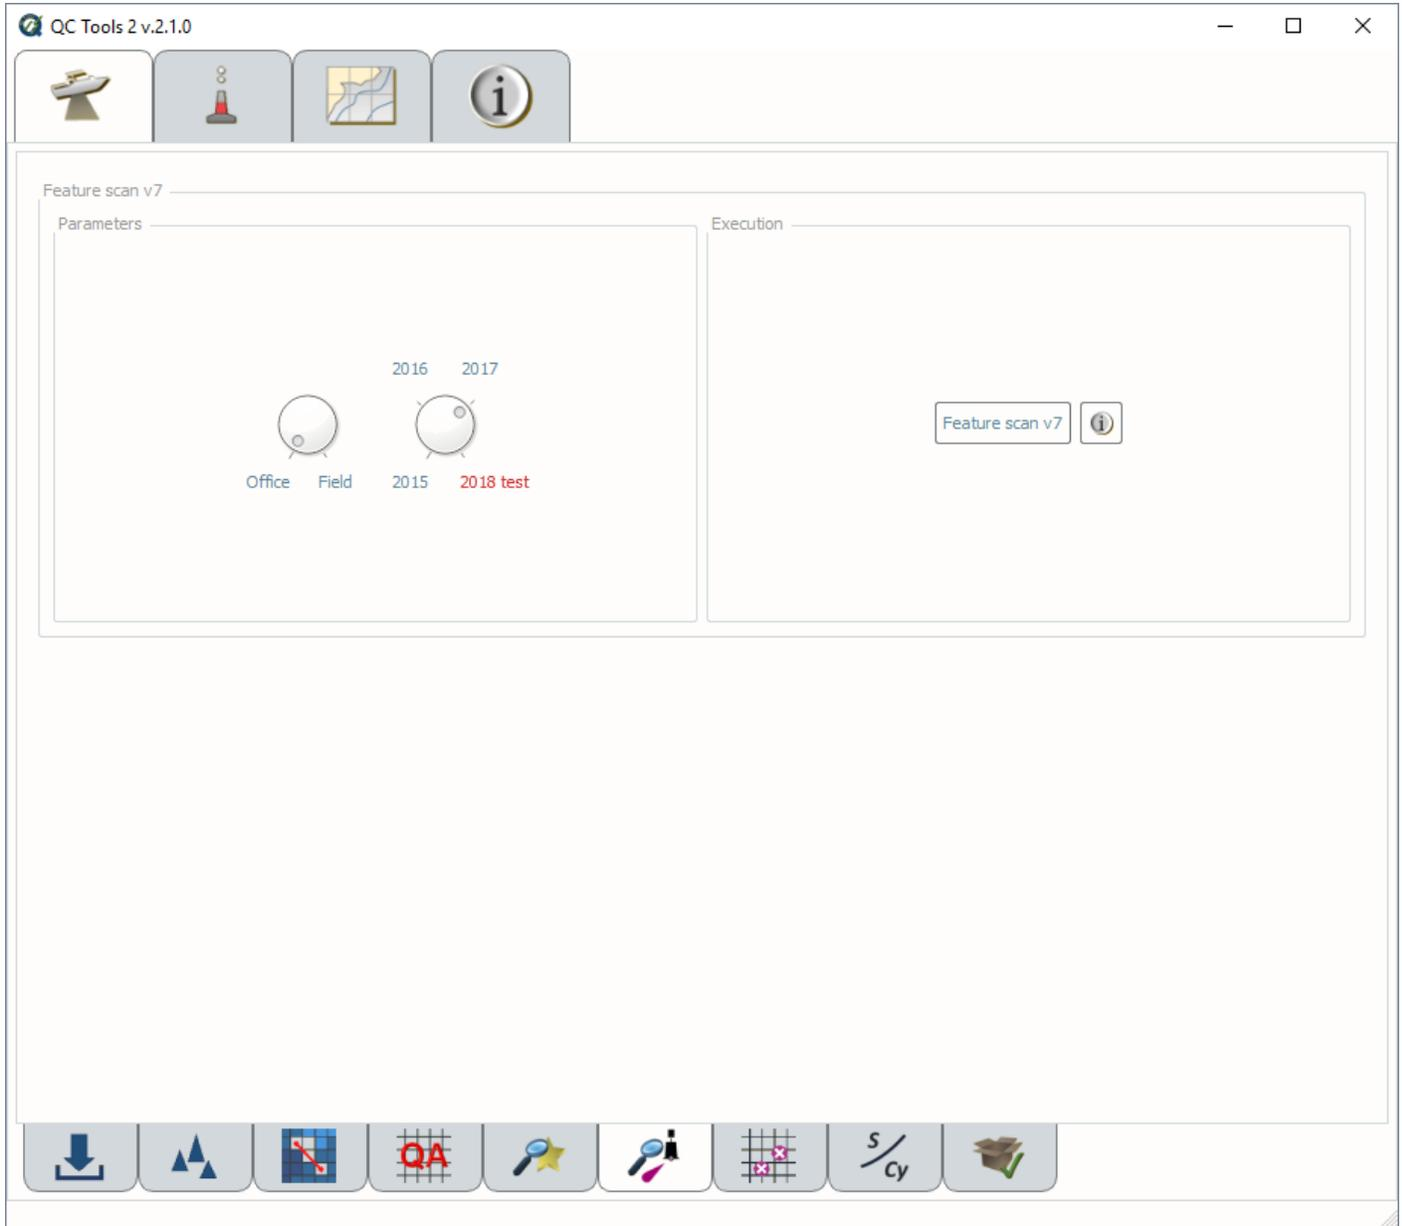

Fig. 2.22: The **Scan features** tab.
- Select the **Scan features** tab (Fig. 2.22) on the bottom of the QC Tools interface.